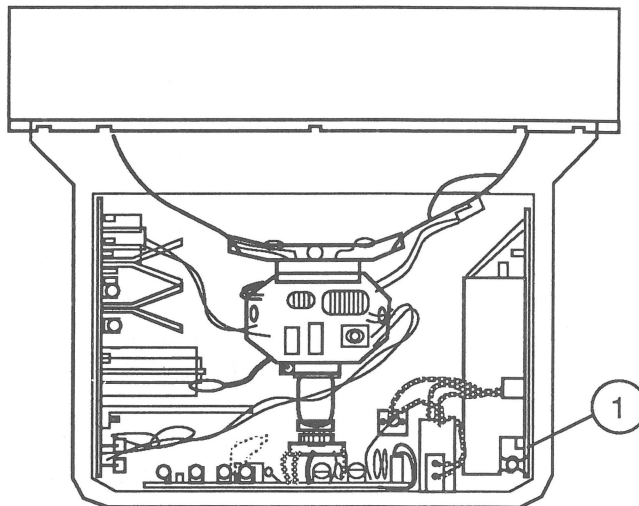

FIGURE 25
4. Locate the 2.5A 250V fuse at position F101 (Figure 25, #1) on the power supply.
1. Carefully snap the new fuse into the fuse holder (Figure 25 #1).